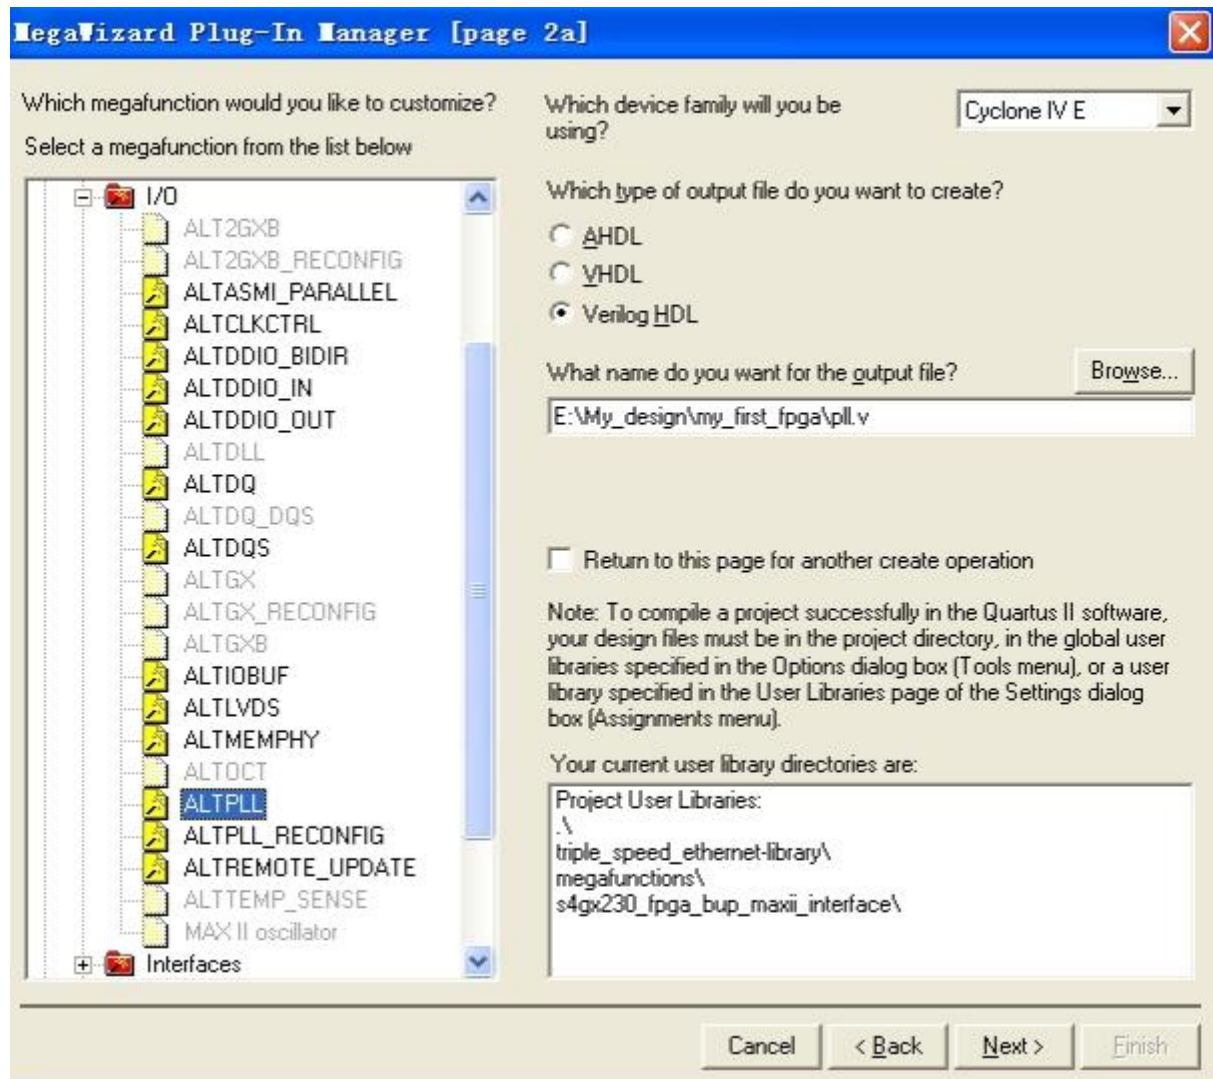

Figure 3-9 MegaWizard Plug-In Manager [page 2a] Selections
4. In MegaWizard Plug-In Manager [page 2a], specify the following selections (see **Figure 3-9**):